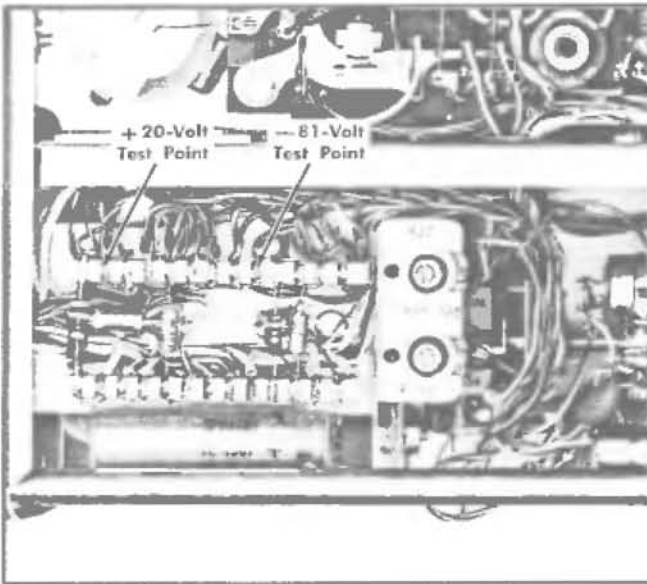

Fig. 6-4. Location of power-supply test points (left side).
- b. Connect the DC voltmeter from the —81-volt test point (see Fig. 6-4) to chassis ground.
- d. Connect the DC voltmeter from the +20-volt test point (see Fig. 6-4) to chassis ground.
- d. Connect the probe tip to the —81-volt test point (see Fig. 6-4).
- i. Connect the probe tip to the +20 volt test point (see Fig. 6-4).